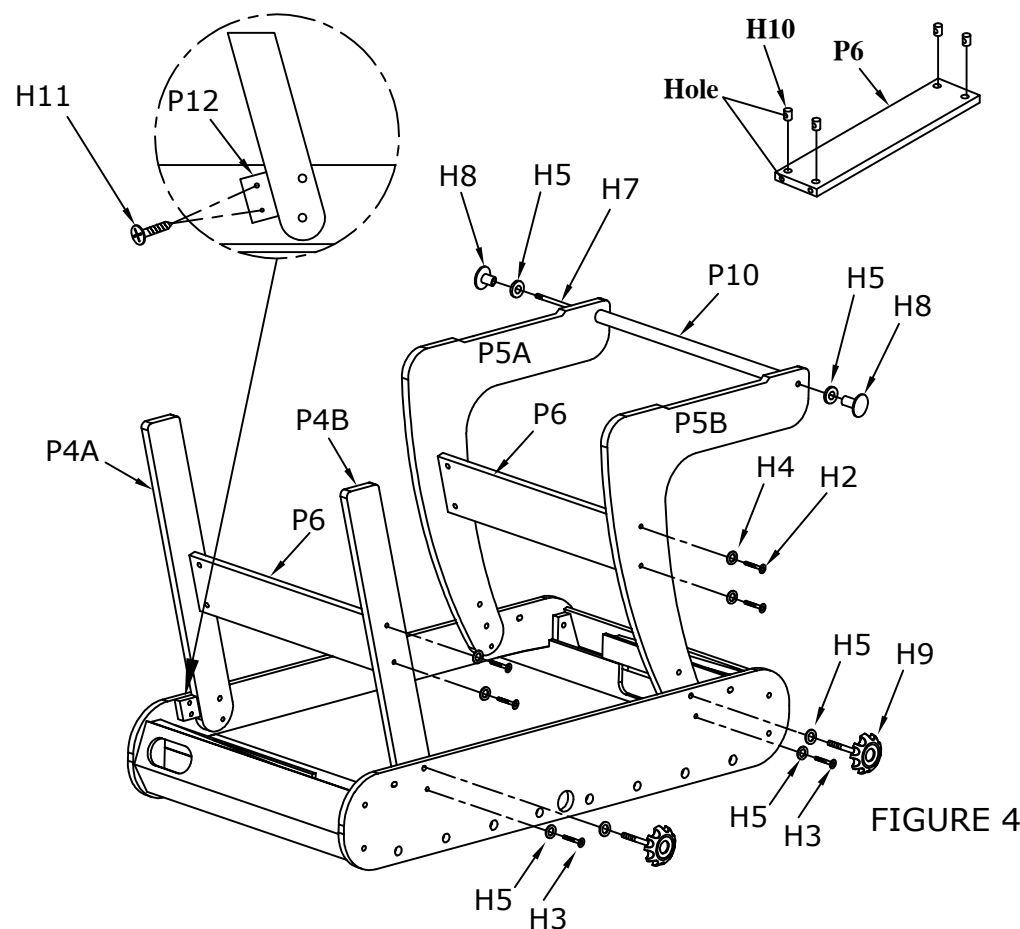

FIGURE 4
- Attach the straight legs **P4A&P4B** and angled legs **P5A&P5B** to the table by using bolts **H3**, washers **H5** and handle bolt **H9**. See **figure 4**.
- Insert the nut **H10** into the hole of the leg **P6**. The hole of the nut align the hole of the panel. See **figure 4**. Attach the leg panels **P6** with bolt **H2** and washers **H4**. See **figure 4**.
- Attach the tube **P10** between each legs **P5A&P5B**. Insert the bolt **H7** into the tube **P10**, then attach with washers **H5** and nut **H8**. See **figure 4**.
- Attach the leg board **P12** with screw **H11**. See **figure 4**.